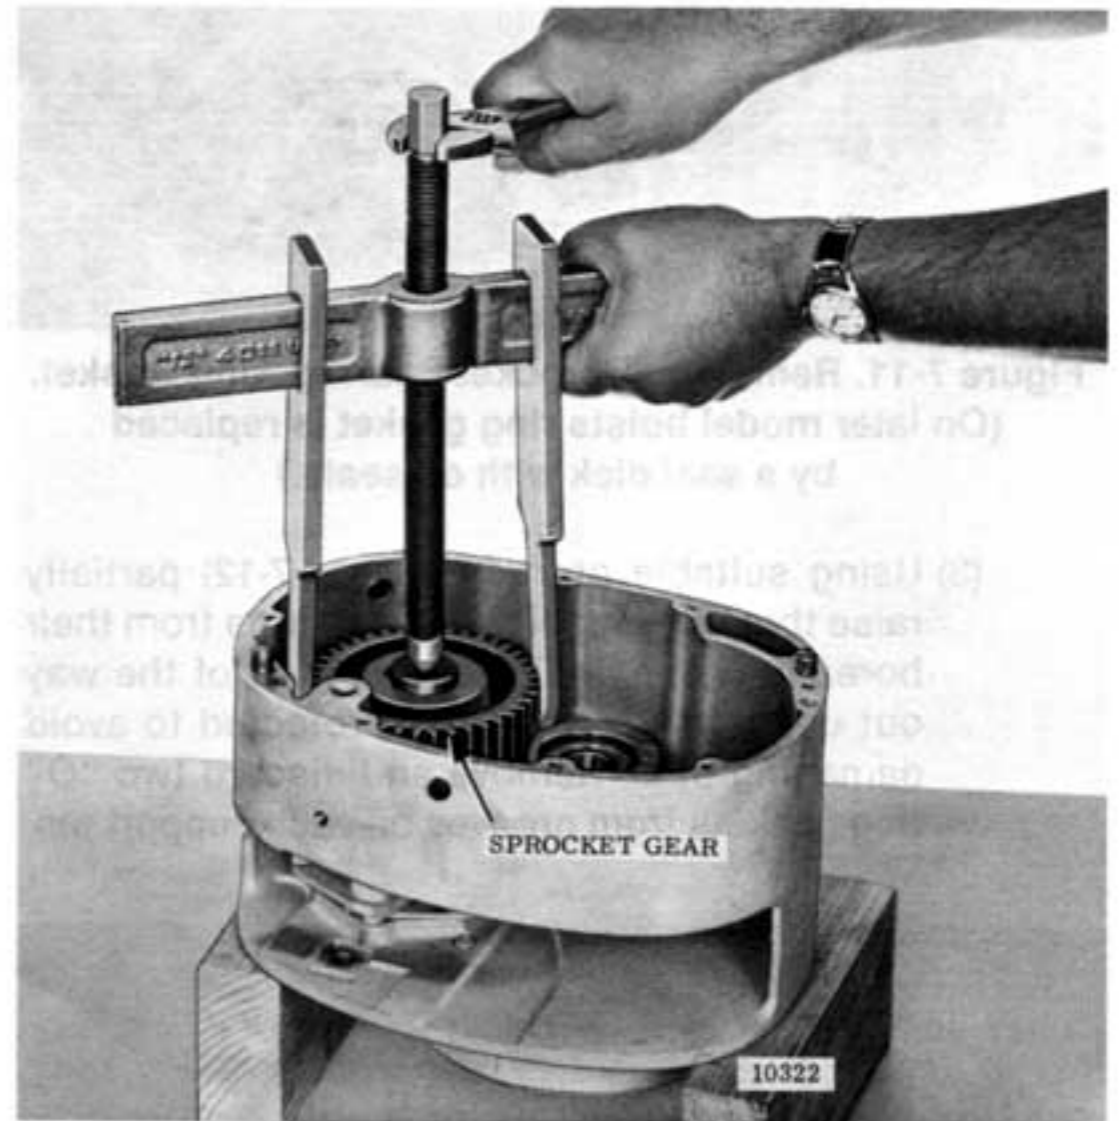

Figure 7-9. Pulling Sprocket Gear from Sprocket Shaft Using Common Puller.
(1) Remove retaining ring from end of sprocket shaft and pull off sprocket gear using a common puller (Figure 7-9). Remove Woodruff key from shaft.